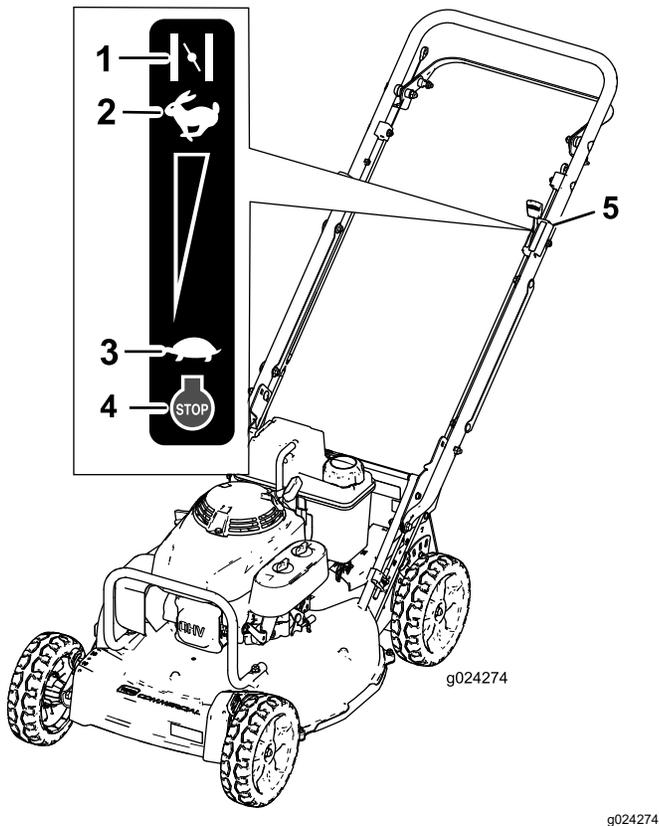

Figure 16
3. Move the throttle-control lever to the CHOKE position (Figure 16).
- When the engine starts, move the throttle-control lever to the Fast position (Figure 16).
Release the blade-control bar and move the throttle-control lever to the STOP position (Figure 16).